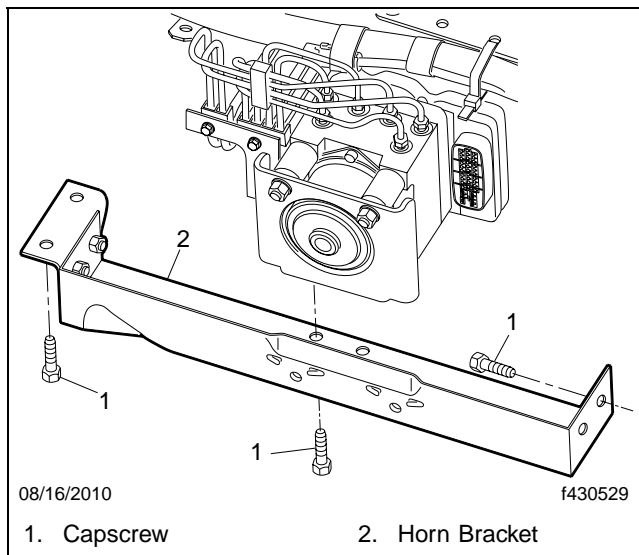

Fig. 6, Horn Bracket Installation (horns not shown for clarity)
8.2 Remove the horn bracket. See **Fig. 6**.